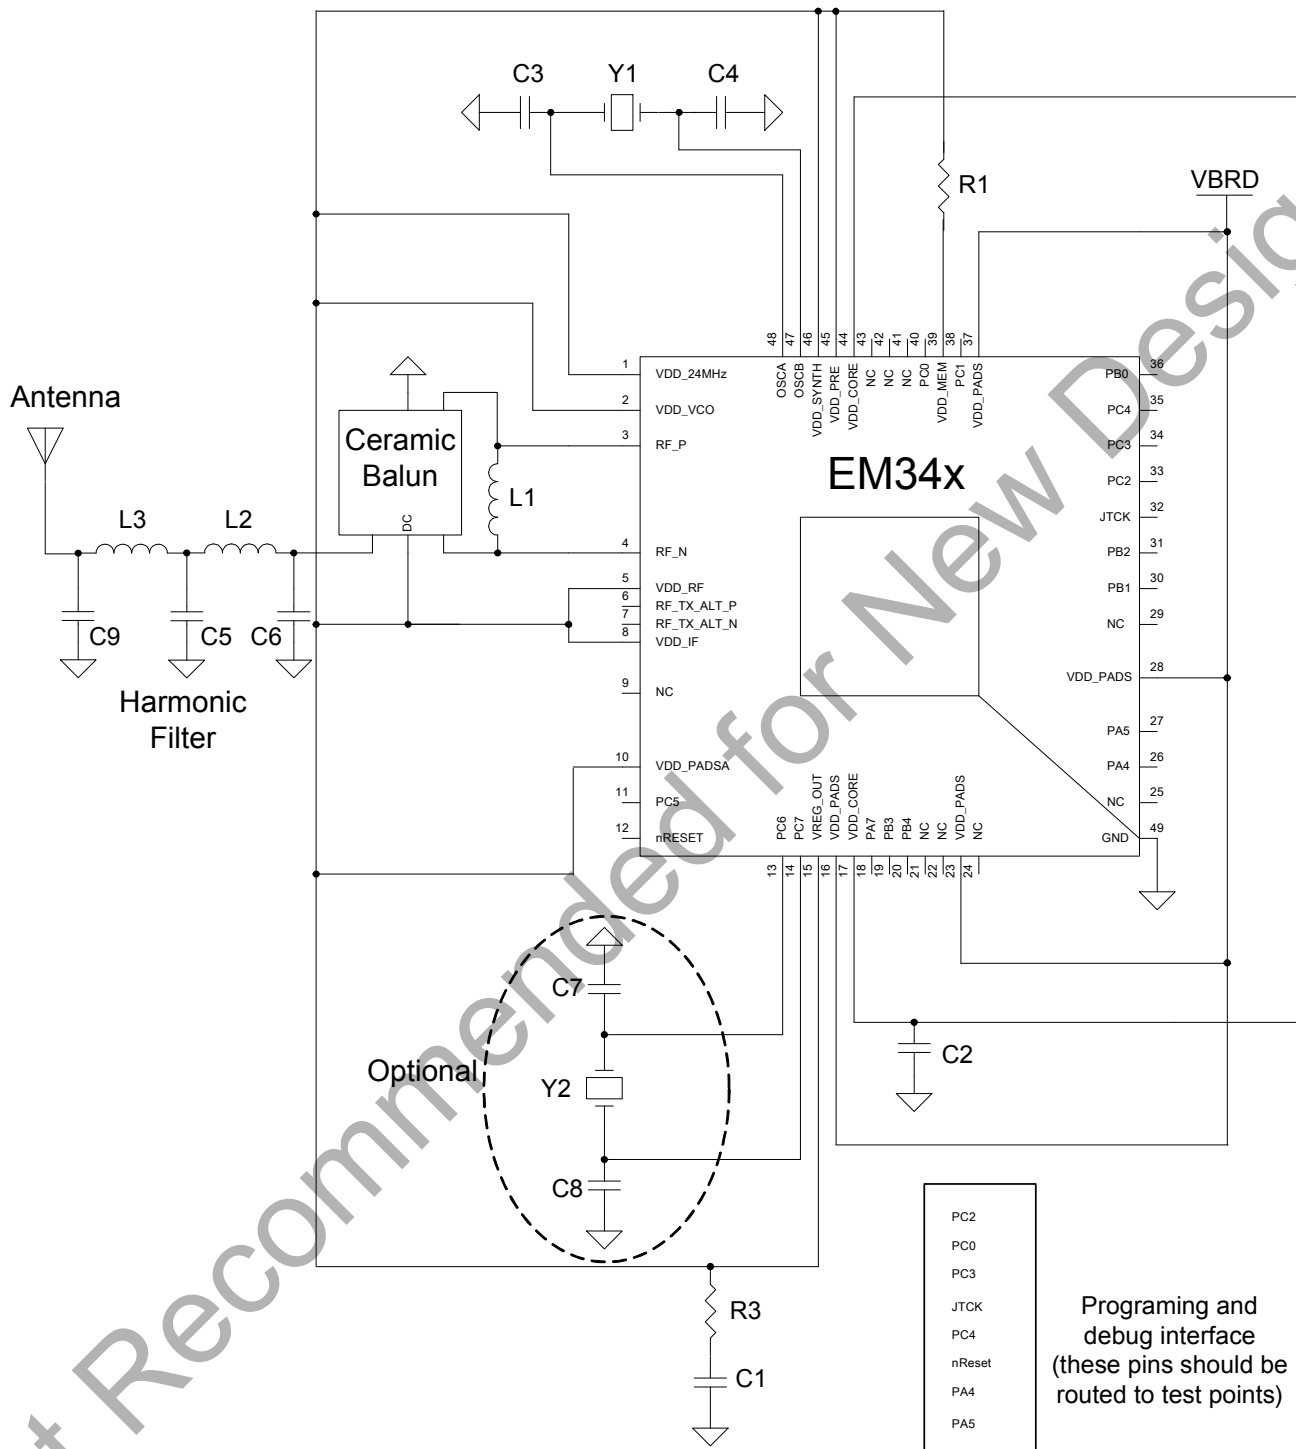

Figure 1.1. Typical Application Circuit
Figure 1.1 illustrates the typical application circuit, and Table 1.1 contains an example bill of materials (BOM) for the off-chip components required by the EM342.
**Note:** The circuit shown in Figure 1.1 is for example purposes only, and the BOM is for budgetary quotes only. For a complete reference design, please download one of the latest Ember Hardware Reference Designs from the Silicon Labs website ([www.silabs.com/zigbee-support](http://www.silabs.com/zigbee-support)).
Table 1.1 contains a typical Bill of Materials for the application circuit shown in Figure 1.1. The information within this table should be used for a rough cost analysis. For a more detailed BOM, please refer to one of Ember EM357-based reference designs at the Silicon Labs website ([www.silabs.com/zigbee-support](http://www.silabs.com/zigbee-support)).